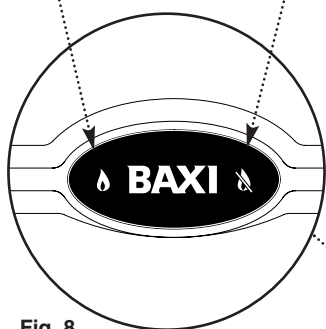

Fig. 8
NOTE: Two status indicators can be seen through the badge (Fig. 8).
2. If the device operates, the red flame failure indicator will light (Fig. 8) and the boiler will shut down.